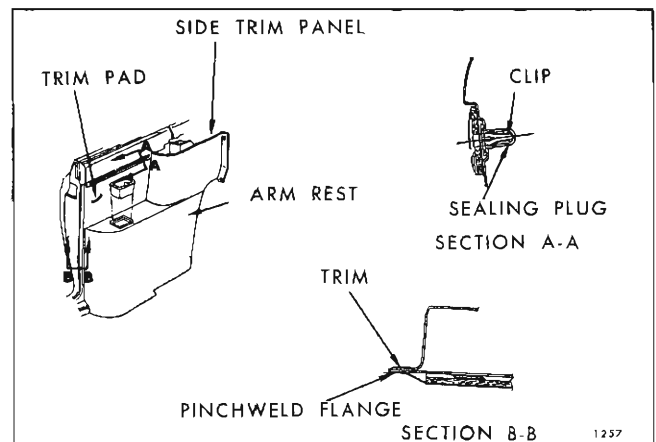

Fig. 5E1—Rear Quarter Trim Assembly
4. Carefully pivot trim assembly forward to break cement bond at pinchweld flange of rear body lock pillar and remove assembly from body (see section B-B in Fig. 5E1).
2. Remove ash tray and two (2) screws securing ash tray housing to rear quarter inner panel (see View in Circle "A" in Fig. 5E2).